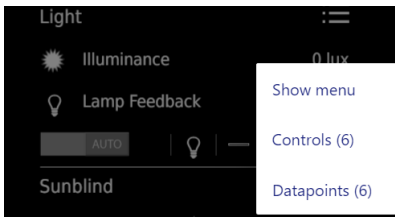

Figure 66: Debug Context Menu
- Enable debug context menu:** If this checkbox is enabled, you can click with your right mouse button on a control to view details. On devices without mouse input, a long press can be used on passive controls. A context menu is displayed listing the controls and attached data points (see Figure 66). Select the name of the control or data point for which you want to inspect the properties as shown in Figure 67. Recording of debug messages in the system log can be enabled (Whitelist) or disabled (Blacklist) for the control or data point (see Section 5.9).